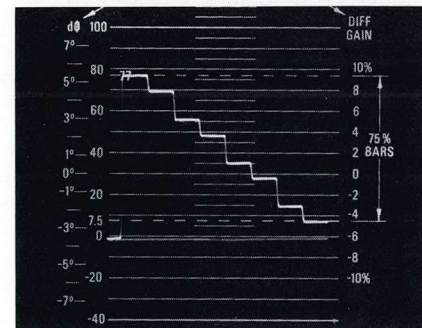
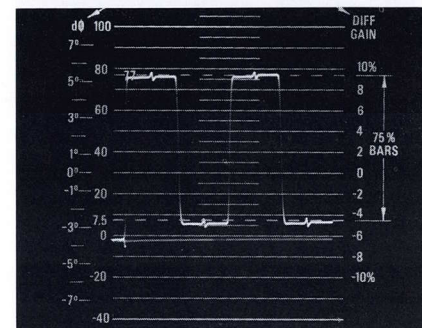
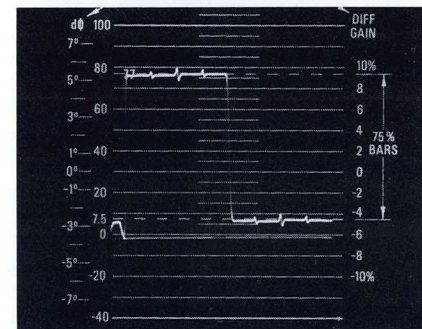
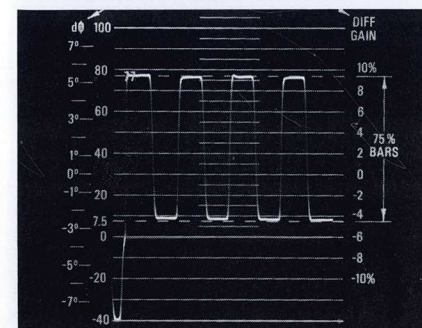

Fig 2
Fig 3
Fig 4
Fig 5
The 520A provides a luminance channel which permits the separation and display of the luminance (Y) component from the composite color signal (fig 2). The Y component can also be combined with the output of the chrominance demodulators for R, G and B displays at a line rate (fig 3, 4, 5). Amplitude measurements of color signal components can be made with an accuracy of 3%.
75% amplitude Color Bar Signal. Line-sweep displays of Luminance (fig 2), decoded Red (fig 3), decoded Green (fig 4), and decoded Blue (fig 5). Displays photographed with a TEKTRONIX C-27-549 Camera, using a TEKTRONIX 140 NTSC Test Signal Generator as a source.
The two main chrominance-signal distortions are differential gain and differential phase. Both can be measured on the Type 521 PAL Vectorscope. Differential gain (fig 2) is a change in color subcarrier amplitude as a function of luminance. In the reproduced color picture, the saturation will be distorted in the areas between the light and dark portions of the scene. The luminance graticule major divisions represent percent of voltage gain or loss when making a differential gain measurement. The 521 PAL Vectorscope permits differential gain measurements with accuracy to better than 1%.
Fig 2—Type 521 PAL and Type 141A system being used to measure differential gain of a typical cascade of video amplifiers. Indicated differential gain is $6\frac{1}{2}\%$.
Line sweep presentations of Luminance (signal sequence; white, yellow, cyan, green, magenta, red, blue, and black, fig 3), decoded Red (fig 4), decoded Green (fig 5), and decoded Blue (fig 6), components of the PAL color bar signal. Photos were taken using a Type 141A PAL Television Test Signal Generator, a Type 521 PAL Vectorscope, and a C-27-549 Camera.